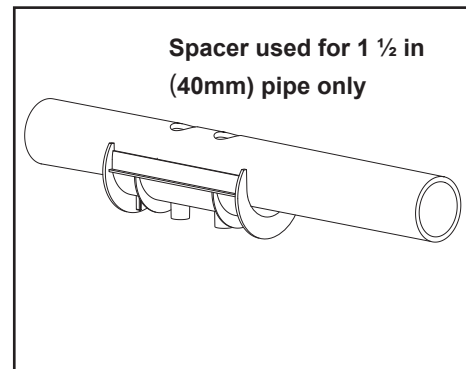

Figure 9. Pipe Spacer
9. Use the pipe spacer as shown if mounting on a 1 ½ in. (40mm) pipe (see Figure 9).